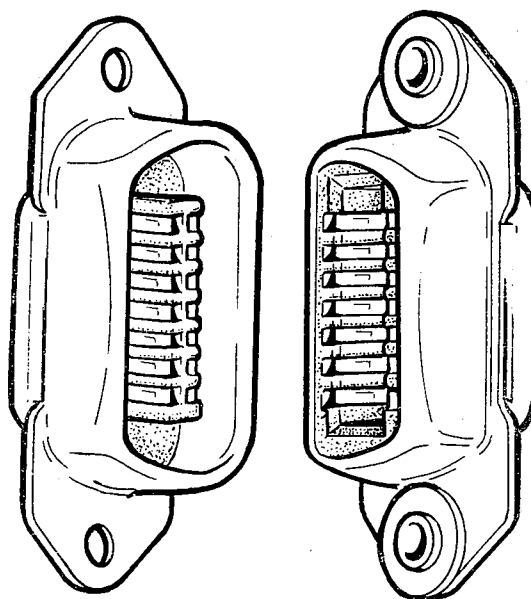
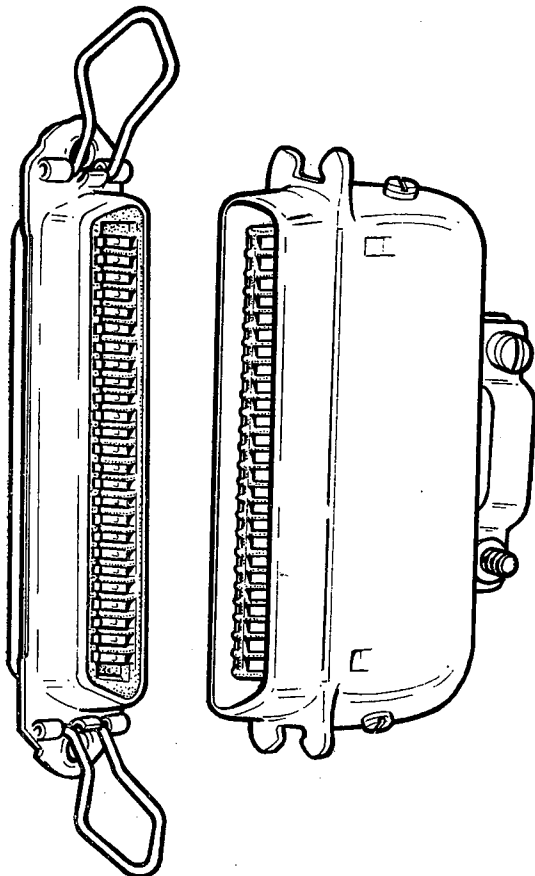

Fig. 1. Rack and panel connector
Fig. 2. Cable to chassis connector
2. In addition to the basic rack and panel style, illustrated in fig. 1, cable to chassis mounting types, as illustrated in fig. 2 are also available. Cable to chassis types have a spring clip latch attached to the receptacle which locates in a flange fitted to the plug. Chassis mounted receptacles can be adapted for cable mounting by the addition of a back shell and cable clamp assembly to the standard panel receptacle.